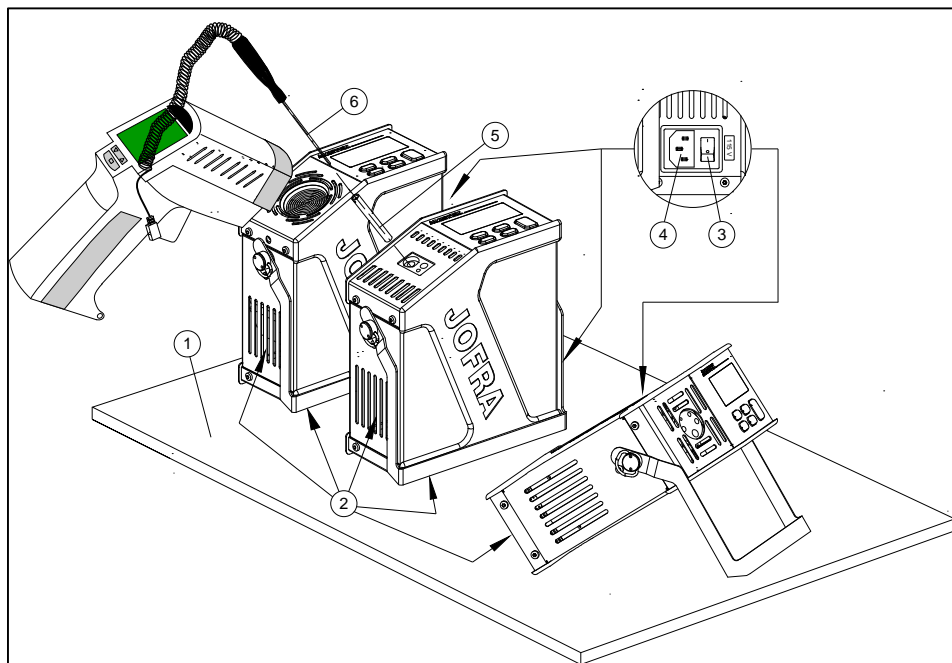

Fig. 1
When setting up the calibrator, you must...(see fig. 1)
Insert the sensor as shown in Fig. 1, pos. 6.